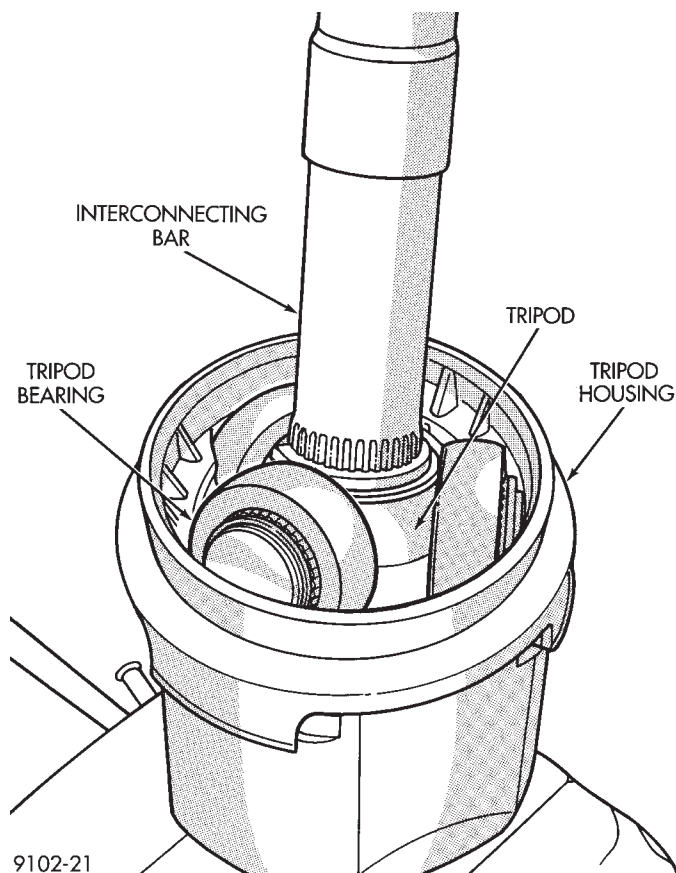

Fig. 3 Separate Tripod From Housing G.K.N.
G.K.N. The retention system on this assembly is an integral part of the plastic collar on the inside of the C/V joint housing. Clamp the stub shaft of the C/V joint housing in a vise, **use protective caps on jaws of vise to prevent damage to stub shaft.** Hold the interconnecting shaft on an angle, while gently pulling on the shaft until one of the tripod bearings is free of the retaining collar. Continue holding the interconnecting shaft on an angle and gently pull on the shaft until all rollers are free of the retaining collar. See (Fig. 3).